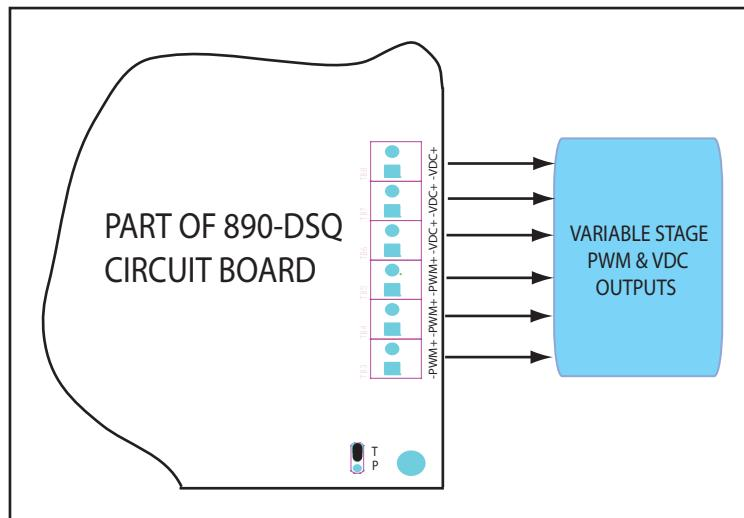

Figure 4
- 3) Refer to **Figure 4, Location of 890-DSQ Sequencer's Variable Stage Output**, (below), for the location of the sequencer's variable stage's PWM and VDC output terminals.**